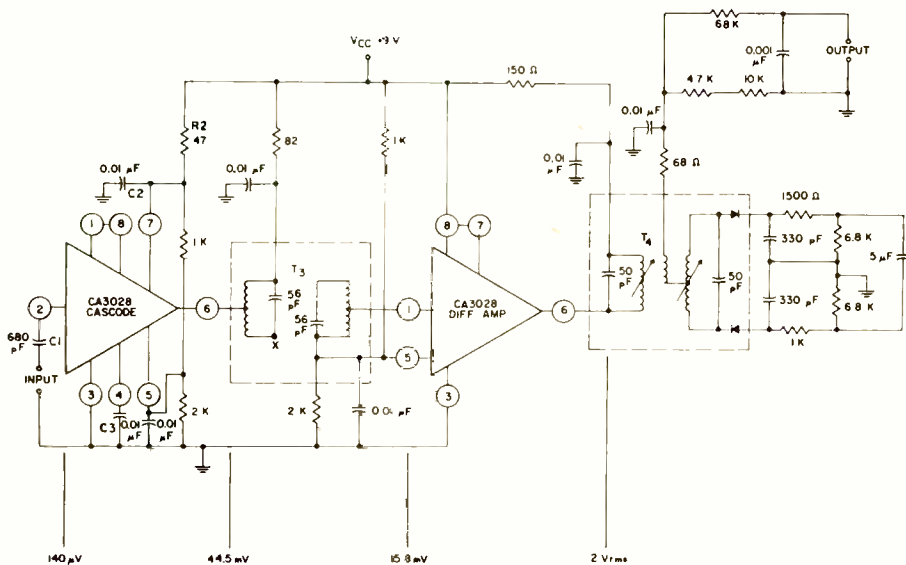
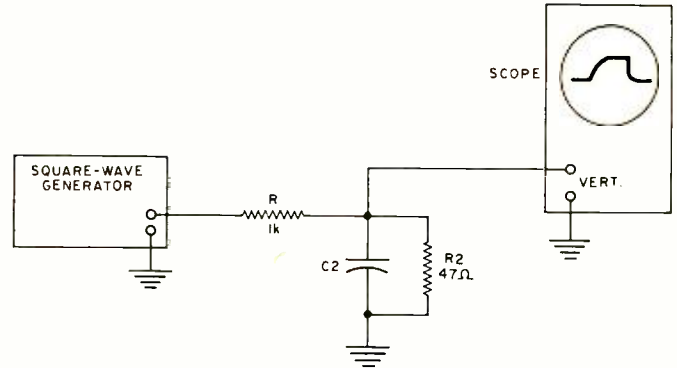

Fig. 1. A typical 10.7-MHz i.f. strip employing a pair of integrated circuits.
Fig. 6. Test-equipment setup to check capacitor  $C_2$  in Fig. 1.
Fig. 1. (A) An unbiased tape is inherently non-linear. (B) When a.c. bias is added in various amounts to the d.c. (signal), the curves are as shown. In this case, the d.c. remains while the a.c. decreases. (C) Same as (B) except that both d.c. and a.c. decrease, simulating actual tape recorder. (D) Output rises with increasing bias to a peak then falls off. (E) Output vs bias current at a number of frequencies using unequalized (flux-sensitive) system, showing the shift required in the bias for maximum high-frequency sensitivity.
Fig. 1 shows two IC's in a 10.7-MHz i.f. strip, a typical application in an FM tuner or, with a frequency change, in a TV i.f. section. It would be very difficult, if not impossible, to troubleshoot this circuit without removing components. Yet we will demonstrate that all parts can be tested without unsoldering any connections, without damaging the IC's, and with reasonable speed. The basic philosophy in any IC troubleshooting technique is to assume that the IC's are good and check all external components first.
Returning to the problem of troubleshooting the i.f. circuit of Fig. 1, we use the test arrangement of Fig. 6 with  $R = 1000$  ohms. The risetime is measured as  $22 \mu s$  and the value of  $C_2$  is therefore  $0.01 \mu F$ . The peak amplitude of the waveform in his case would be approximately 50 mV for a one-volt peak input. This is the result of the approximate 1:20 ratio between  $R_2$  and  $R$ . Figs. 3A and 3B show actual scope traces for this test. Fig. 3A is the applied square wave and Fig. 3B is the voltage across  $C_2$ .